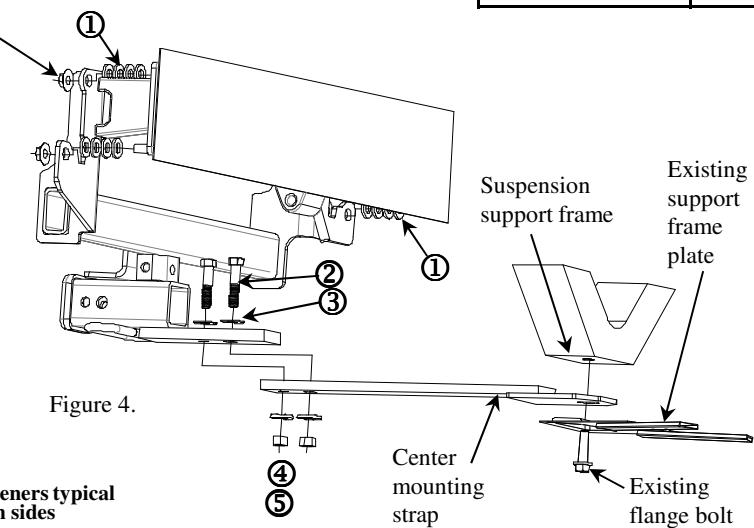

Figure 4.
9. Attach the center support bar to the hitch as shown in figure 4.
11. Reinstall the (2) underbody appearance panels.